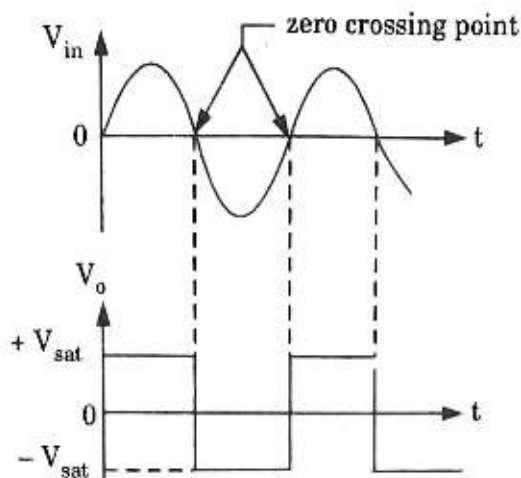

Fig. 2.14.3.
4. Thus the output voltage switches between $+V_{sat}$ and $-V_{sat}$ whenever the input signal crosses the zero level. This is shown in Fig. 2.14.3.